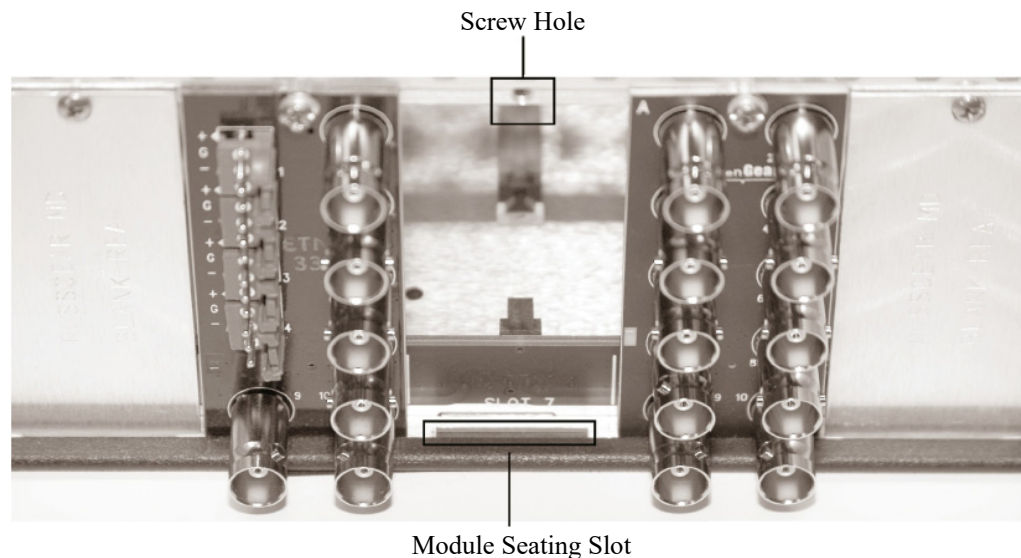

Figure 2-1. Rear Module Installation in a DFR Series Frame (5100-AVD not shown)
4. As shown in **Figure 2-1**, seat the bottom of the rear module in the seating slot at the base of the frame's back plane.